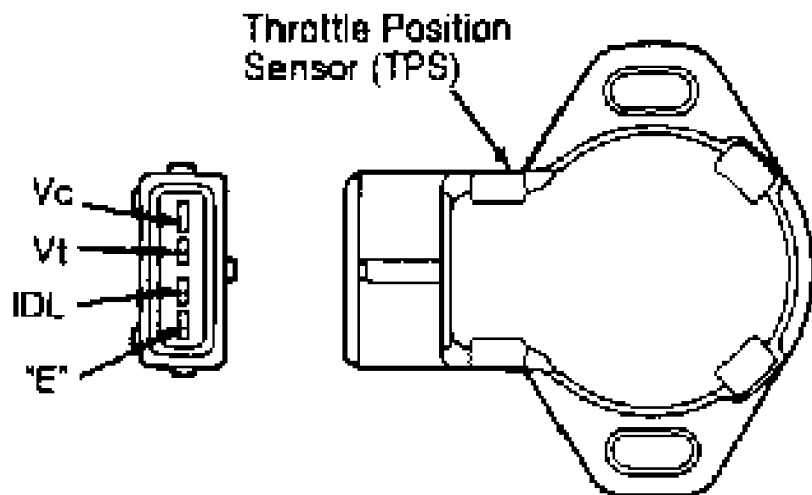

Fig. 14: Miata, Protege & 323 W/ A/T TPS Connector Terminal ID
1) Disconnect TPS connector. Connect an ohmmeter between TPS connector terminals "E" and IDL. See Fig. 14. Insert feeler gauge of specified thickness between throttle lever and throttle stop screw. See MIATA, PROTEGE & 323 WITH A/T TPS CONTINUITY TEST TABLE.
- 1) Disconnect TPS connector. Connect ohmmeter between TPS connector terminals "E" and IDL. See Fig. 14. Loosen TPS attaching screws.